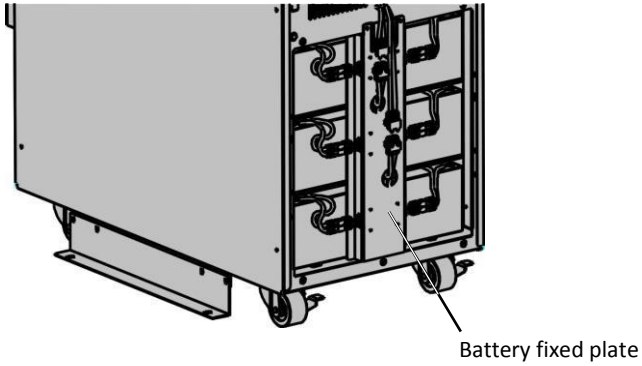

Fig. 8-2 Battery easy replacement-Step 2
- 2) Disconnect the battery pack DC connectors and remove the battery fixed plate. See Fig. 8-2.